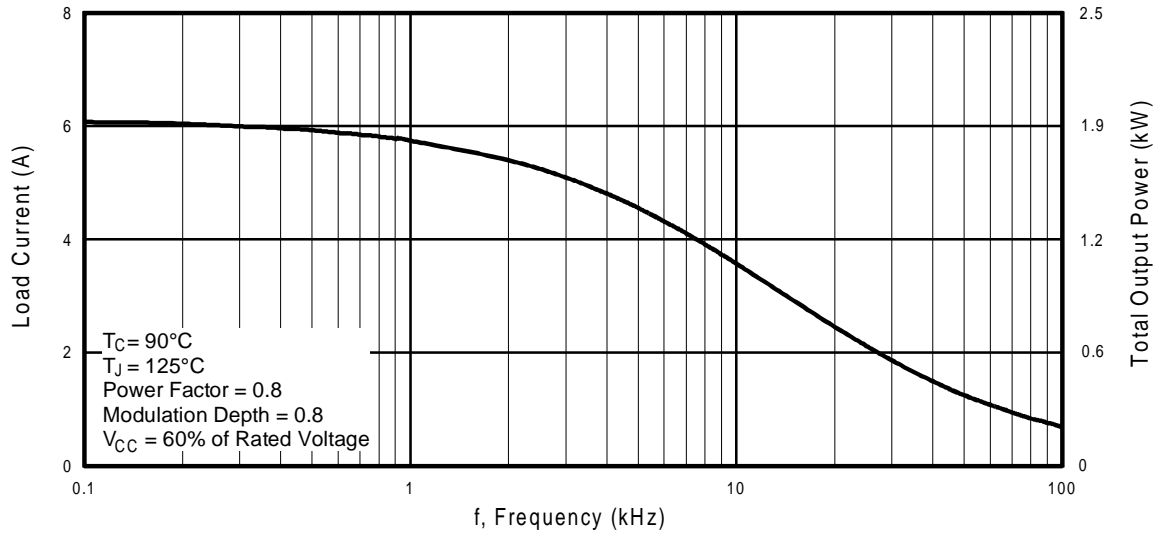

Fig. 1 - RMS Current and Output Power, Synthesized Sine Wave
See Fig. 1 for Current vs. Frequency curve
4.6 A_{RMS} per phase (1.4 kW total) with T_C = 90°C, T_J = 125°C, Supply Voltage 360Vdc, Power Factor 0.8, Modulation Depth 80% (See Figure 1)